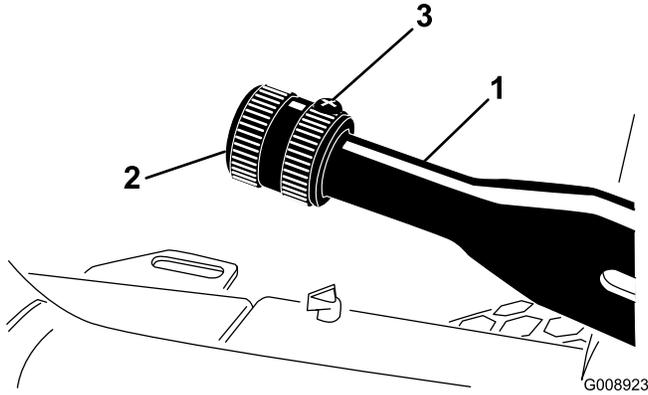

Figure 52
1. Loosen the set screw securing the knob to the parking brake lever (Figure 52).